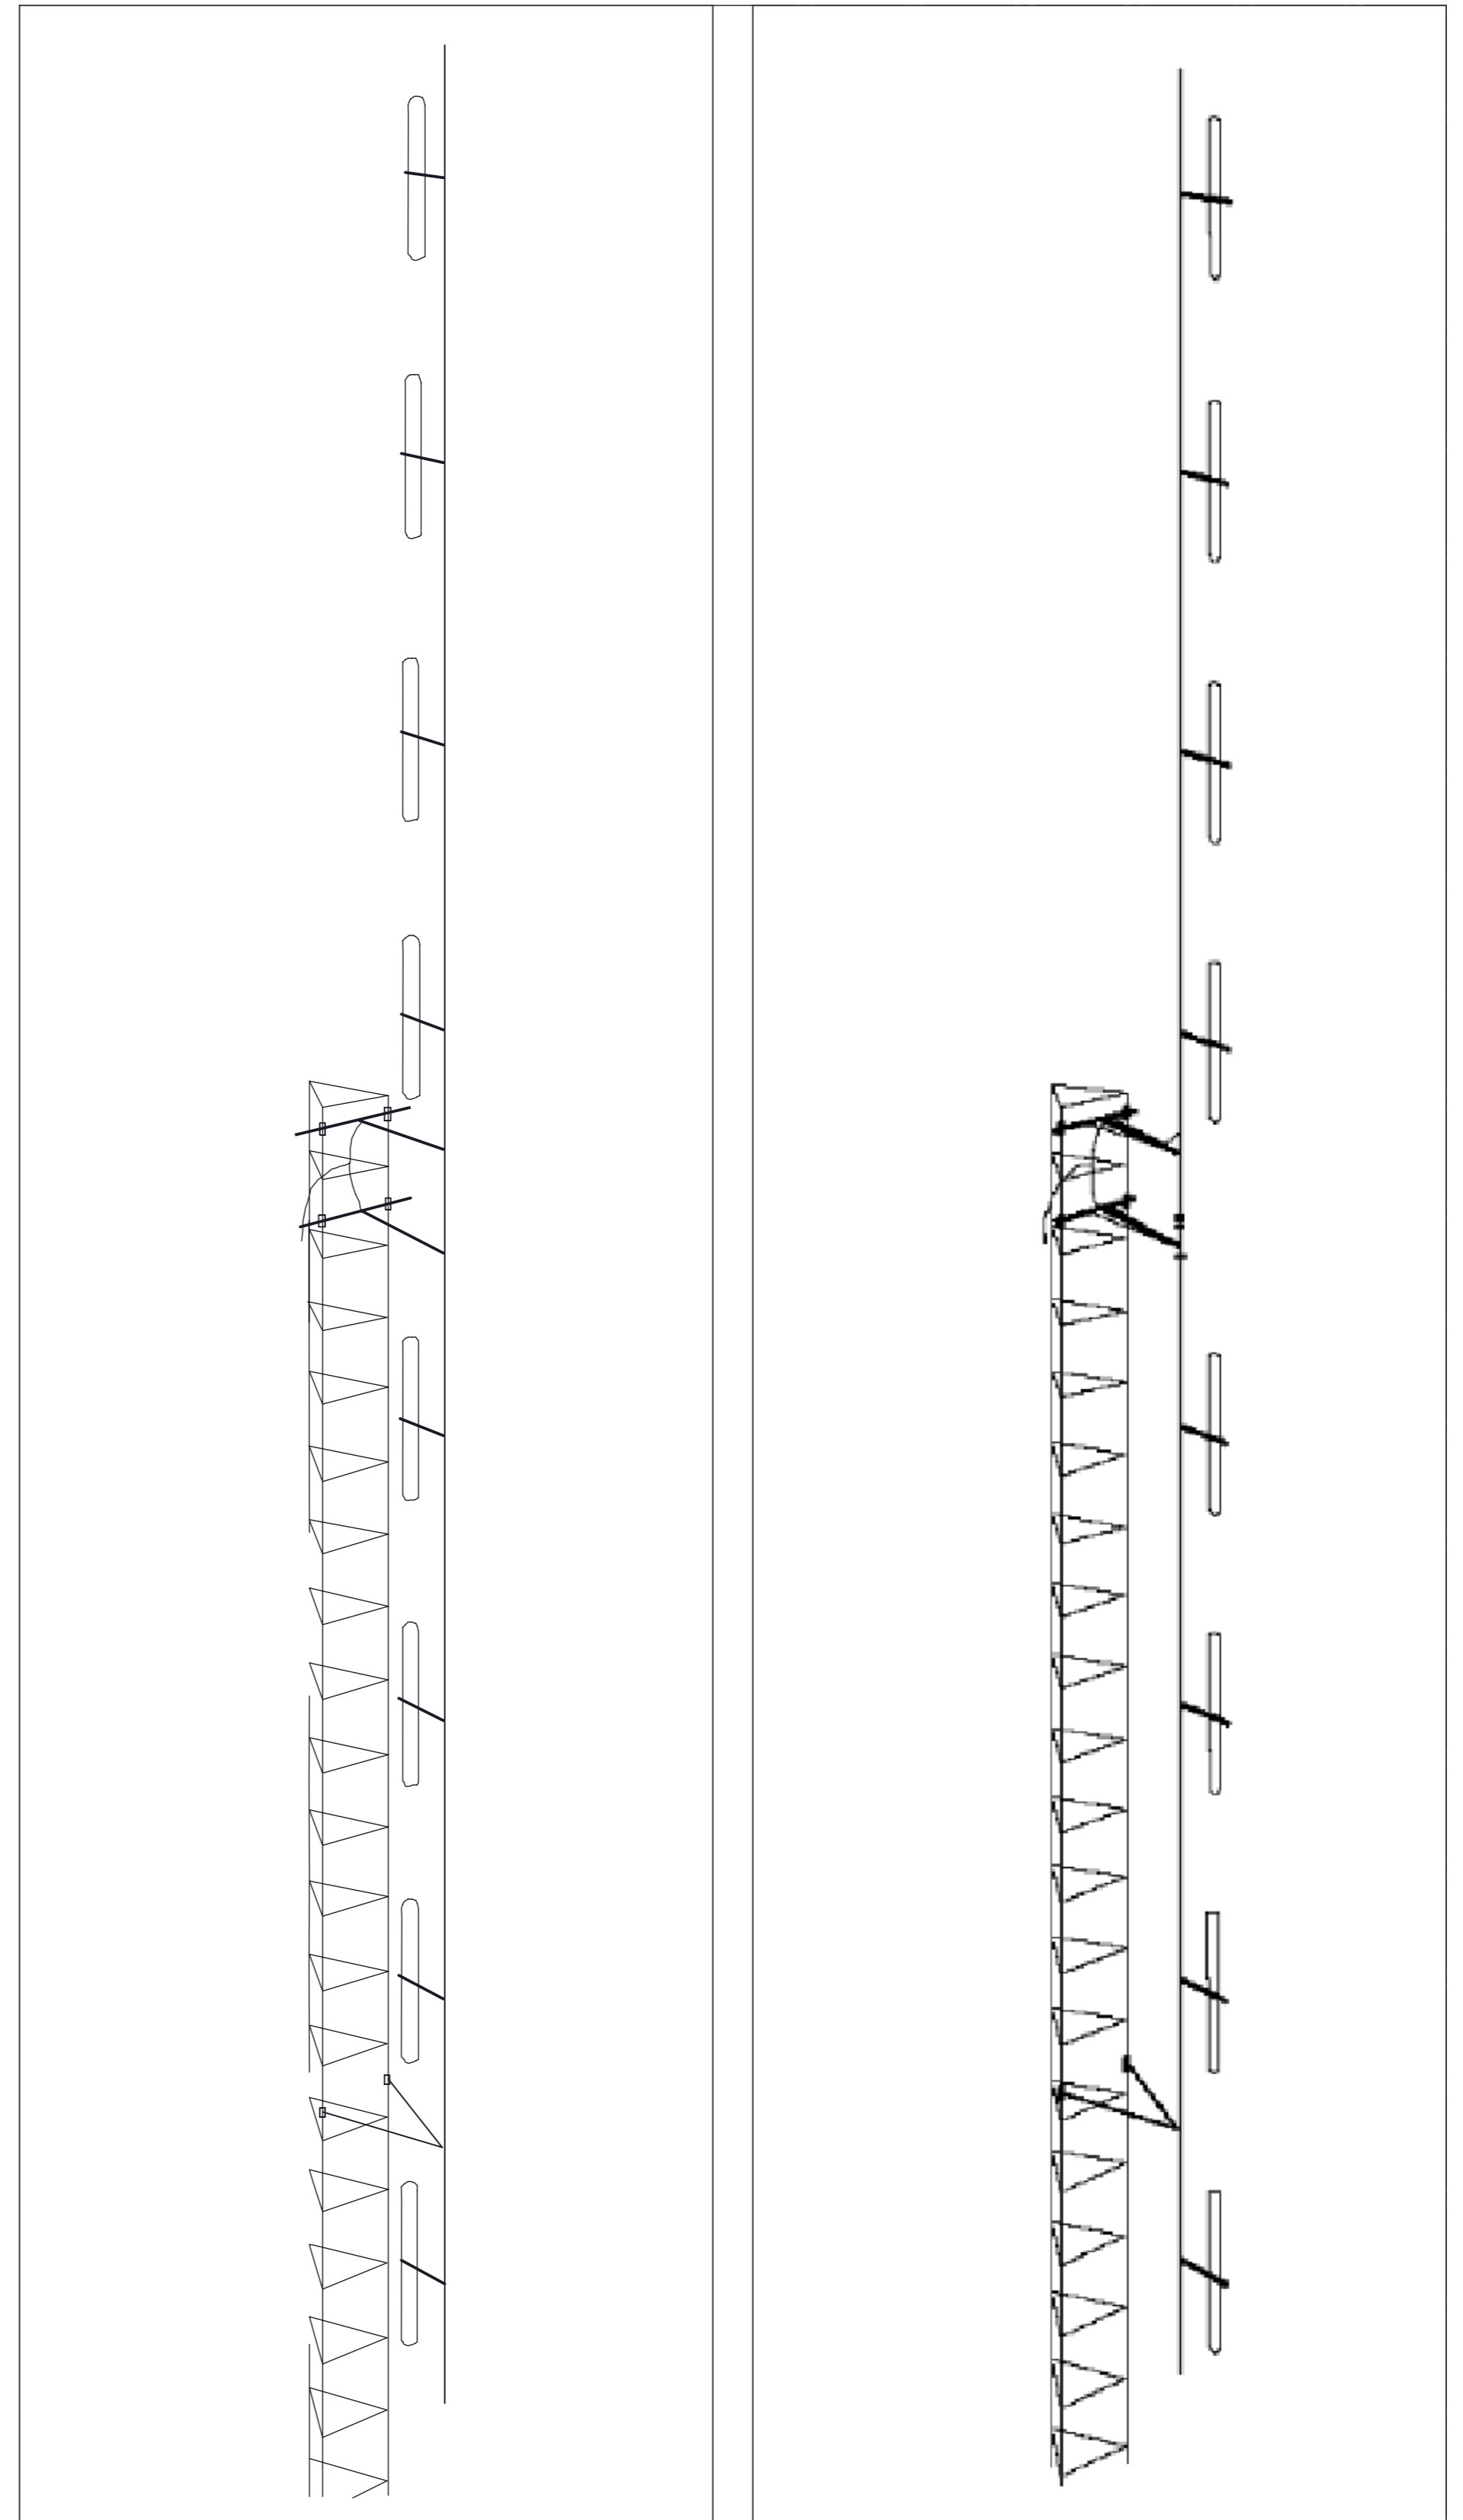

Figure 3. Circular Pattern.
2. For a circular pattern, mount both antennas to the mounting frame as shown in Figure 3. For an off-center pattern, mount both antennas to the mounting frame as shown in Figure 4.